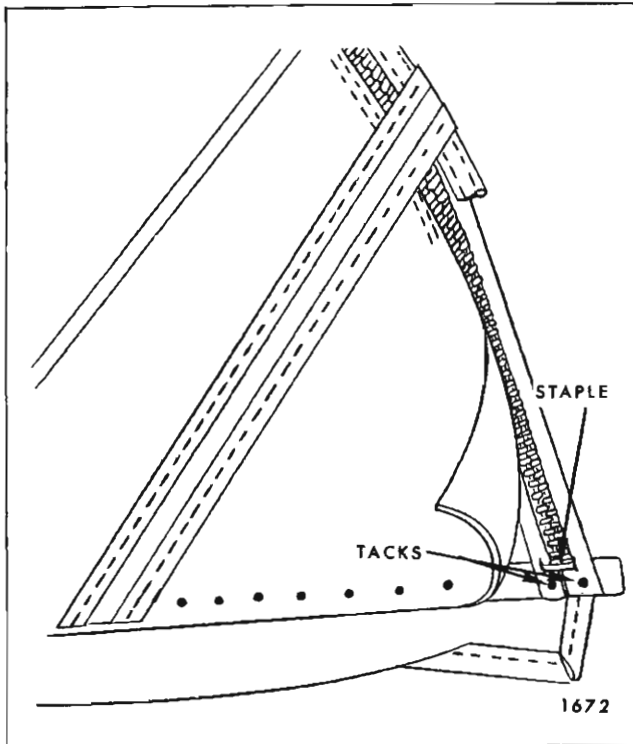

Fig. 2-I-52 — Zipper Installation At Rear Quarter Trim Stick
NOTE: Notch in back curtain vinyl at lower edge indicates centerline of back curtain assembly. (See Fig. 2I51). In addition, back curtain lower edge should extend approximately 1/2" below lower edge of trim sticks.
8. Tack nylon webbing to rear trim stick. (Fig. 2I49).
11. Staple both sections of zipper tape together. Staples will aid in preventing zipper scoops from disengaging and also serve as a stop for the slide fastener. (Fig. 2I52).
13. Tack zipper tape to rear quarter trim stick (Fig. 2I52). Zipper tape should not be pulled taut as zipper teeth may show through top material after top has been properly installed.